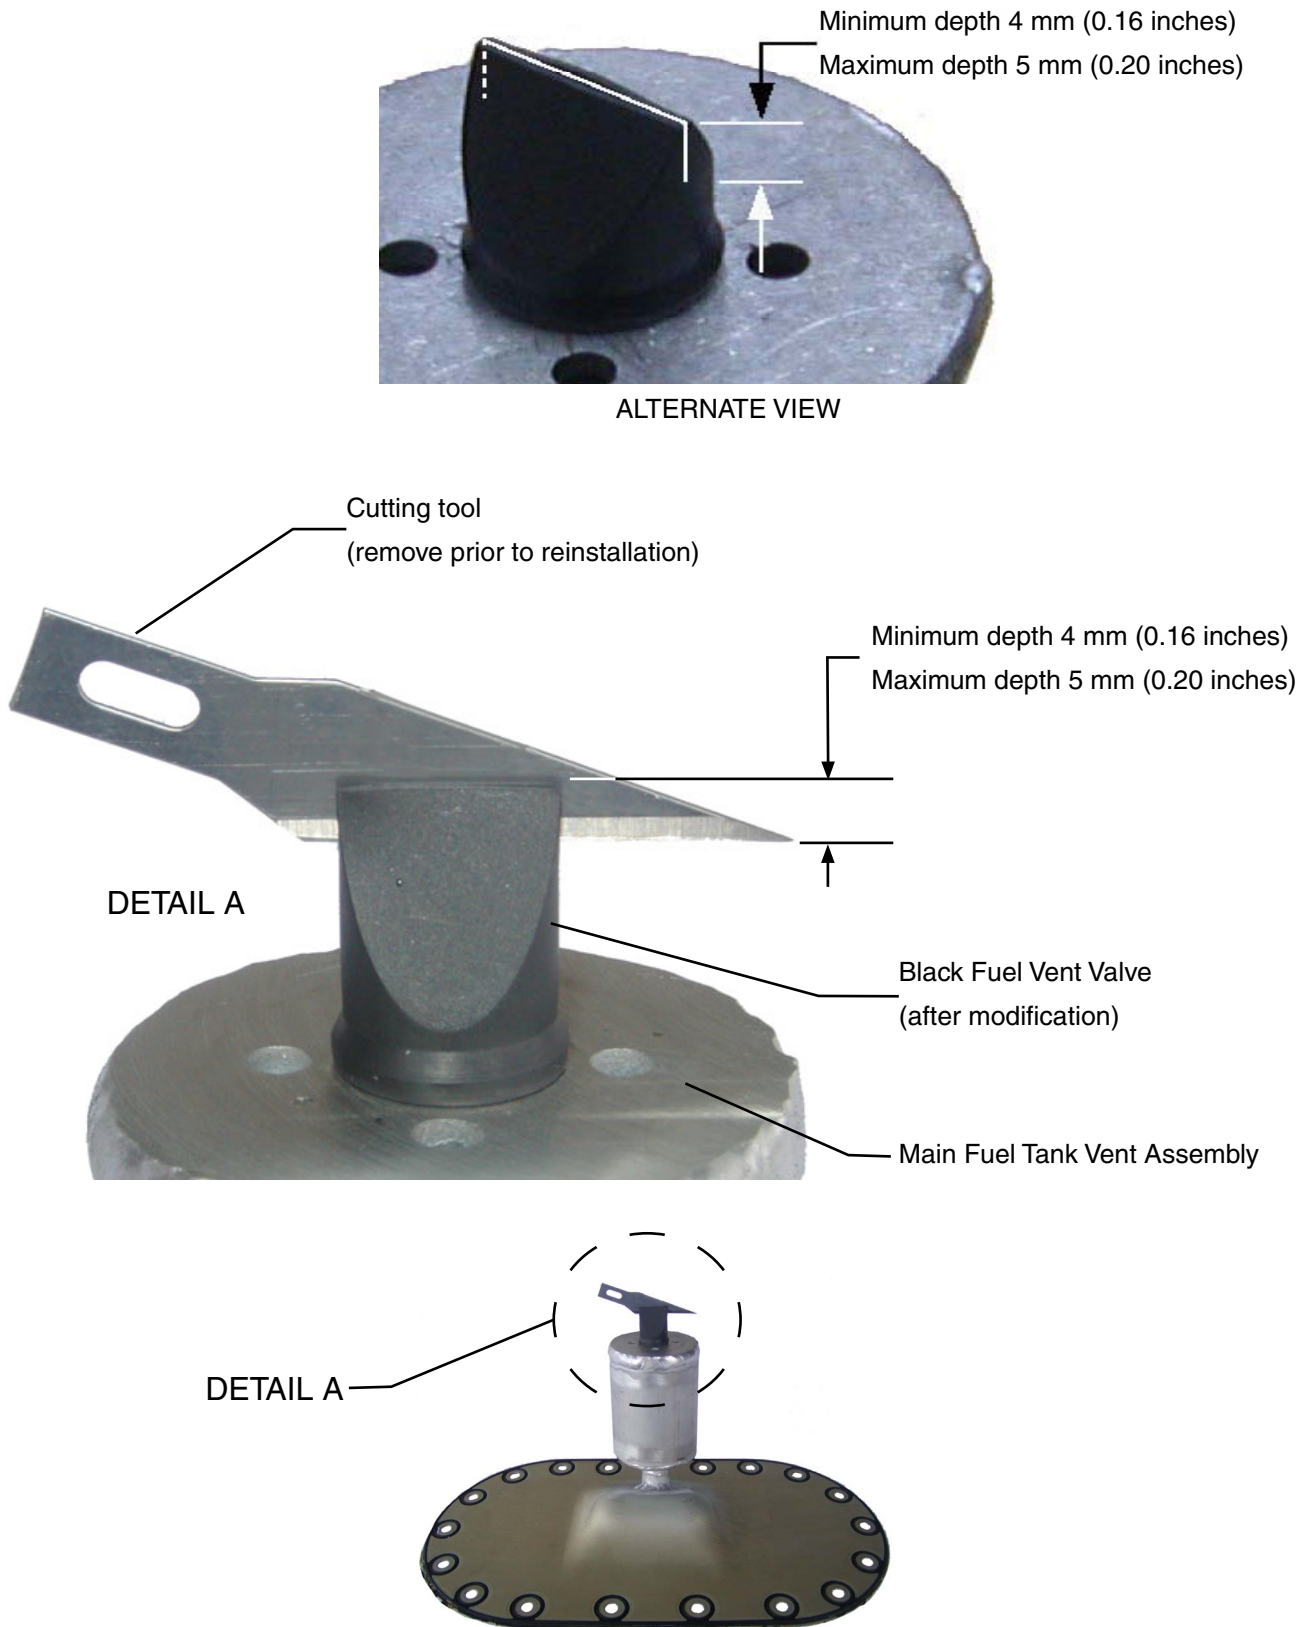

Figure 1
2. Using a razor blade, scalpel or other suitable sharp tool, carefully slice the duck bill portion of the black fuel vent valve, as shown in Figure 1.